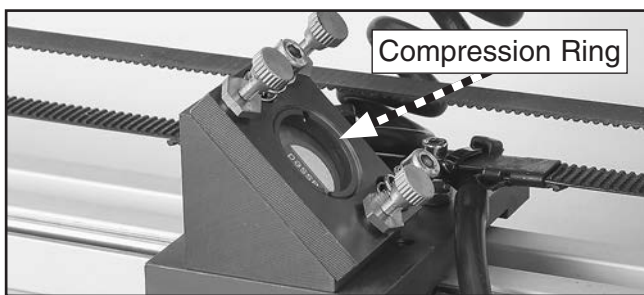

Figure 105. Typical compression ring location.
3. Locate compression ring on rear of mirror (see **Figure 105**) and remove with optics disassembly tool.